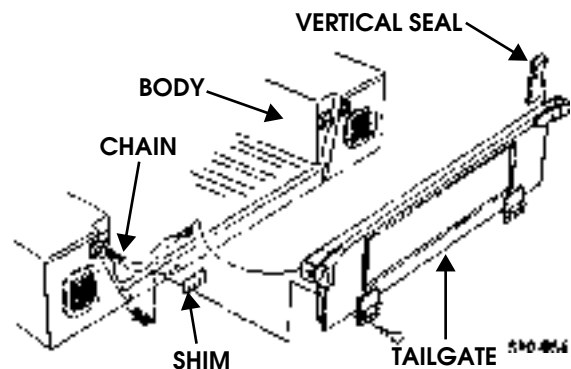

Figure 10-142: Tailgate and Seals Replacement
1. Remove six locknuts, washers, and bolts securing tailgate to body (Figure 10-142).
5. Remove paper backing from two vertical seals and install seals on tailgate (Figure 10-142).